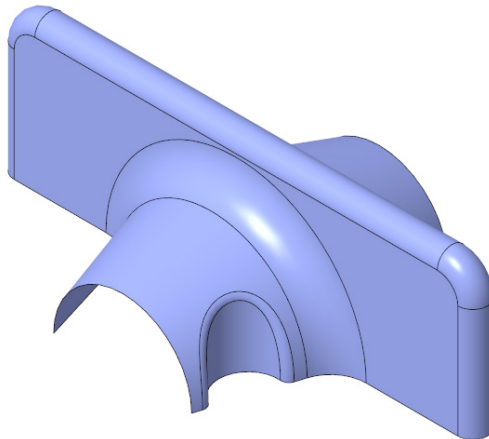
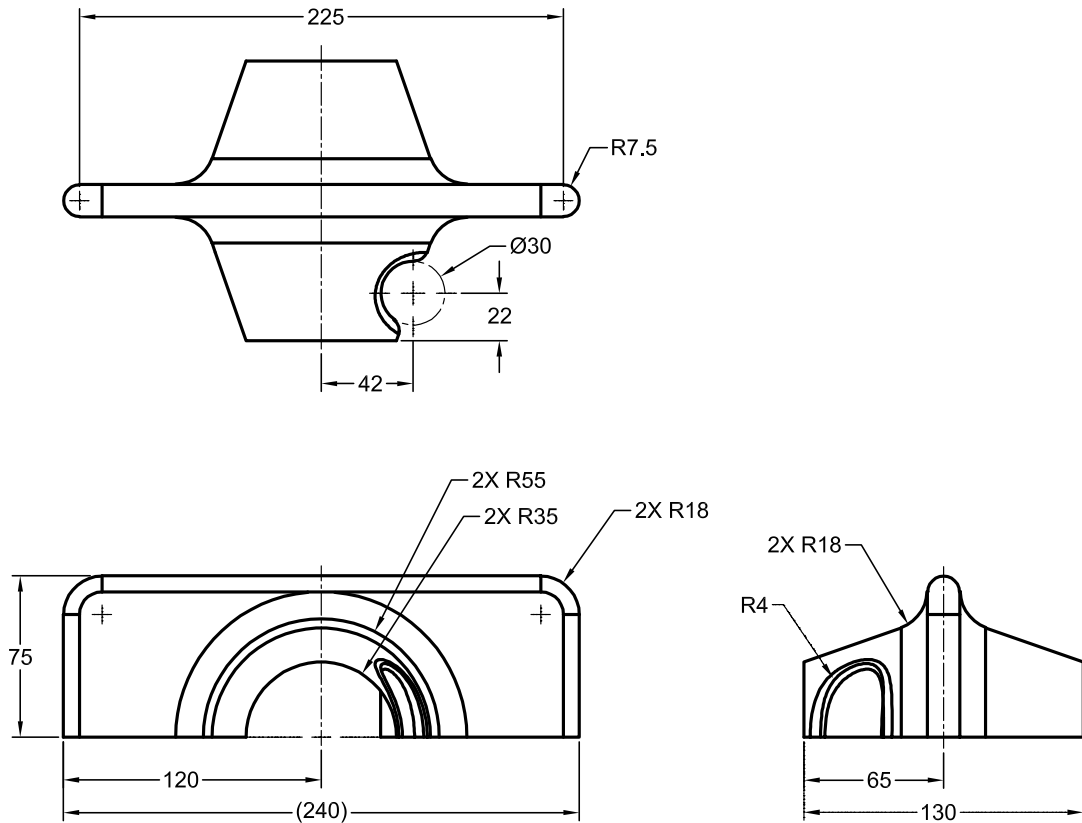

Figure 15-115 Isometric view of the surface model
Figure 15-116 Orthographic views of the surface model
In this tutorial, you will create the surface model shown in Figure 15-115. The front and right views of the surface model are shown in Figure 15-116. **(Expected time: 45 min)**
First, examine the model and determine the number of features in it, refer to Figure 15-115.
5. Draw an arc of diameter **55**; for the remaining dimensions refer to Figure 15-116 and then choose **OK** to exit the Sketcher environment. Choose the **Insert** button from the **Section** tab; an offset value edit box with a default value will be available in the dashboard and in the **Sections** tab. Enter **65** in the offset value edit box for specifying the depth of second section. Next, choose the **Sketch** button from the **Sections** tab to enter the Sketcher environment.